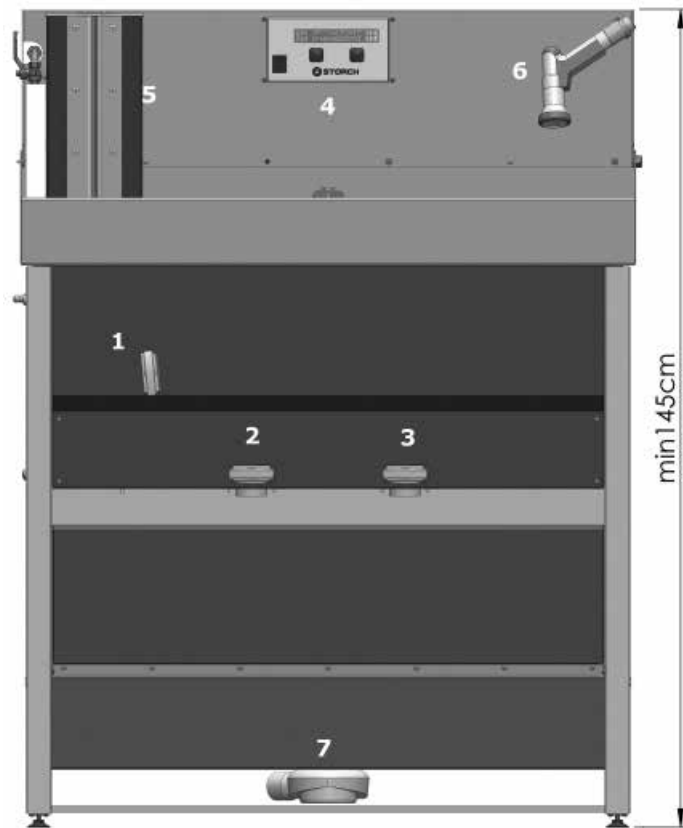

Fig. 1
After the device has been positioned, the supplied drain (7) Fig. 1, 2 is connected to the on-site drainpipe. Height of the on-site drain max. 100 mm
- Clean tools/containers with the supplied hand shower head (6) Fig. 1
- Clean rollers in the TurboWash (scope of delivery in ColorFree TOP Set) (5) Fig. 1, 2, 5, 6
- Switch on the system at the on/off switch of the control (4) Fig. 1
This can occur if the water level in the reaction tank is too low. During the flocculation process, air is mixed in, which ensures that the flakes float. In this situation, do not open the fresh water outlet (1) Fig.1 after flocculation, but instead confirm the „Water drained“ action and open the drain (2) Fig.1 or (3) Fig.1, depending on which one is displayed by the control.